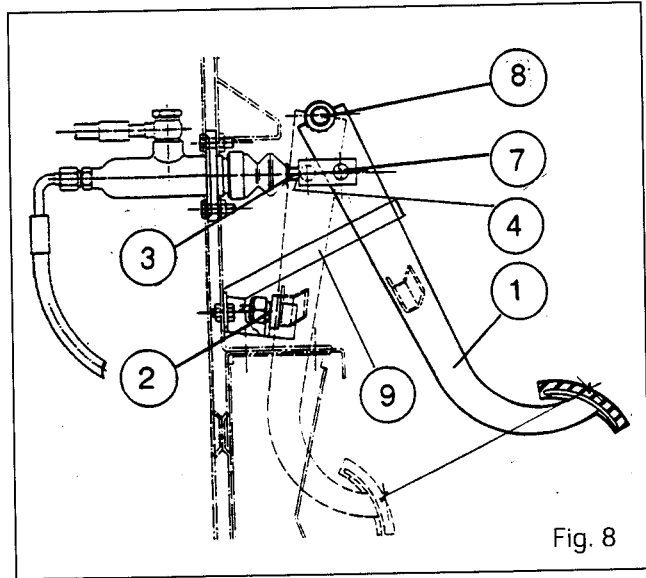

Fig. 8
On tractors with pressure-loaded clutch (hydraulically operated), the pedal clearance is not adjustable (Fig. 8).
Use the same method as in the previous version to adjust the push-rod (3). Bring the pedal (1) into contact with the fixed stop (9) (Fig. 8).